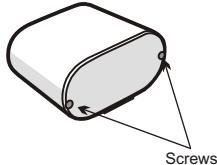

Fig. 2
- 2.) Remove the 2-back screws from the infrared sensor/transmitter to open the unit (Refer to Fig. 2 ).